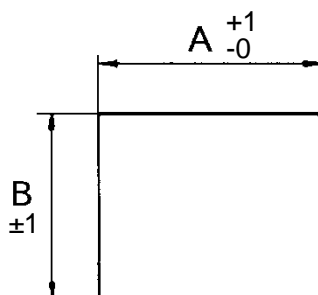

Figure 11. Panel Cutout Size
- Refer to Figure 11 and Table 4 and cut a square cutout in the panel.